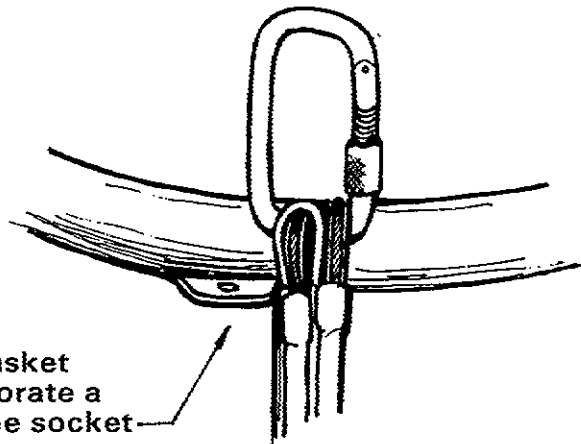

figure 2.1
Step 1: Slide the four nylon rods into the burner frame socket (fig. 2.1) and stand the burner on the rods. Locate the corner of the basket with the wire end coloured red. This will be at the bottom right hand corner when the basket is tipped over for inflation (viewed from the basket, looking toward the envelope). Bearing this in mind, two people can lift the burner and rod assembly, by the rods, into the sockets on top of the basket. The orientation is correct if the pressure gauges on the burner are the right way up when the basket is tipped over for inflation. The assembly should now look like figure 1.6. In a T-partition basket (160, 180 or 240), the burner is usually offset towards the pilot compartment at the right hand side.
Connect the flying wire carabiners to both the burner frame and basket wire, as shown in figs. 2.1 and 2.2. Care should be taken to see that the flying wires are not crossed or twisted at this point. Screw the carabiner gates closed tight, then back off 1/4 turn.